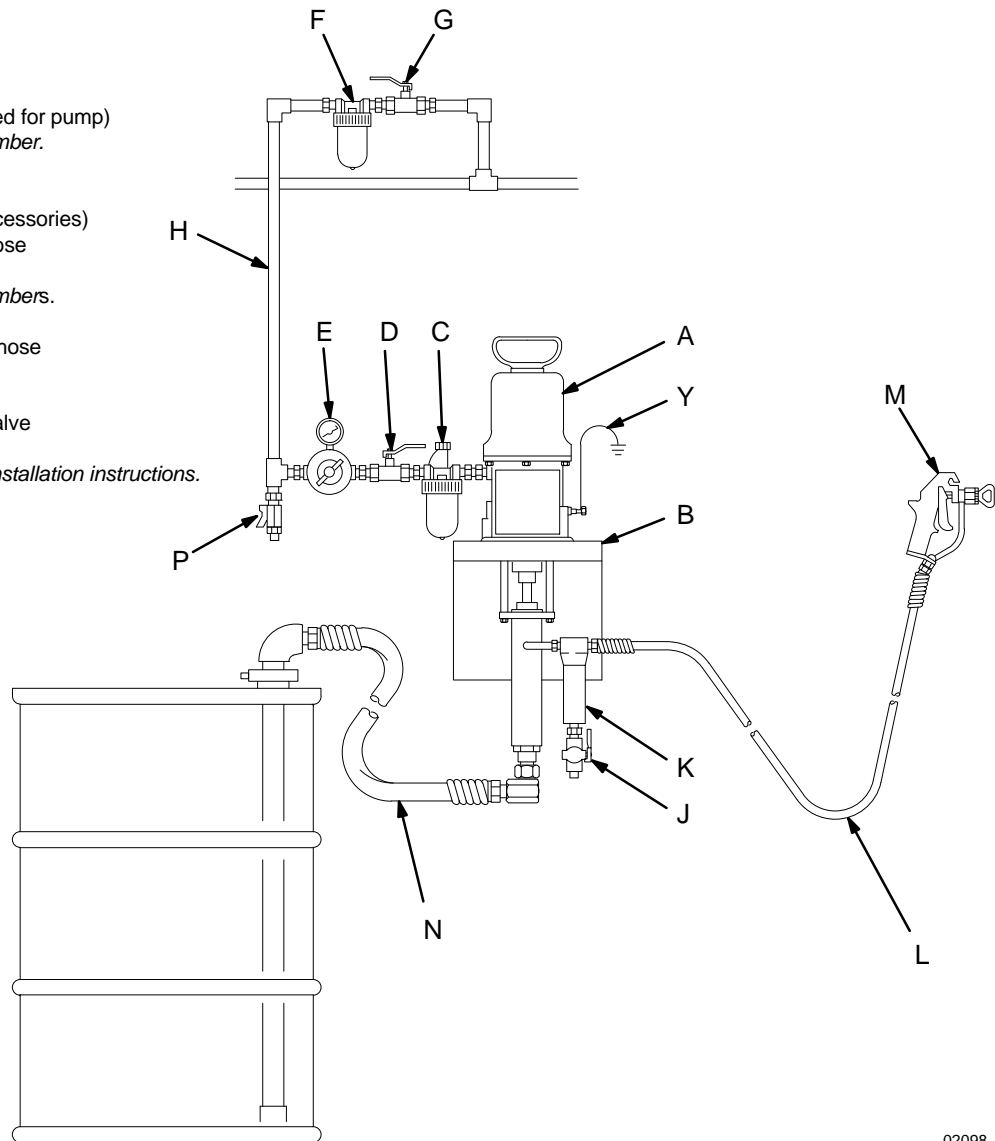

Fig. 2
- Fig. 2 is only a guide for selecting and installing system components and accessories. Contact your Graco distributor for assistance in designing a system to suit your particular needs.
Install the following accessories in the order shown in Fig. 2, using adapters as necessary:
Install the following accessories in the positions shown in Fig. 2, using adapters as necessary:
Dispenses the fluid. The gun shown in Fig. 2 is an airless spray gun.
1. Ensure that the air regulator (E) and bleed-type master air valve (D) are closed. See Fig. 2 on page 6.
2. Connect a suction hose (N) to the pump's fluid inlet, or lower the pump into a fluid supply container.
3. Hold a metal part of the spray gun (M) firmly to the side of a grounded metal pail and hold the trigger open.
4. Open the pump's bleed-type master air valve (D).
5. Slowly open the air regulator (E) until the pump starts (approximately 40 psi [0.28 MPa, 2.8 bar]).